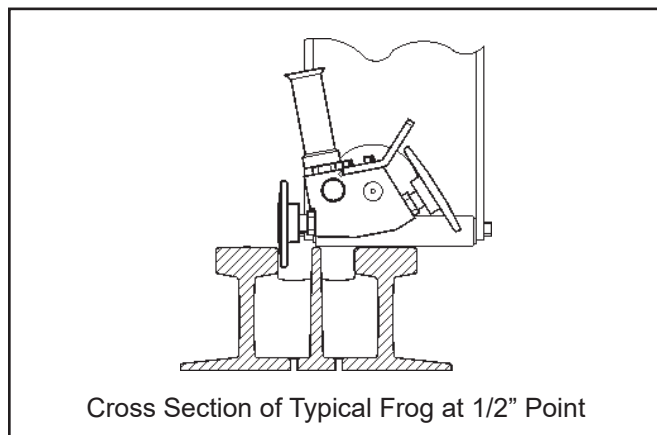

Figure 2. Grinding the Point of a Frog
For grinding the point of a frog, place the grinder on top of the point with the rollers (91) resting on the top of the point. Adjust each wheel pivot (86) to the position shown in figure 2. Grinding is accomplished by moving the grinder back and forth in line with the rail. It may be necessary to rotate the entire grinder 180 degrees and place it on the other side of the point in order to